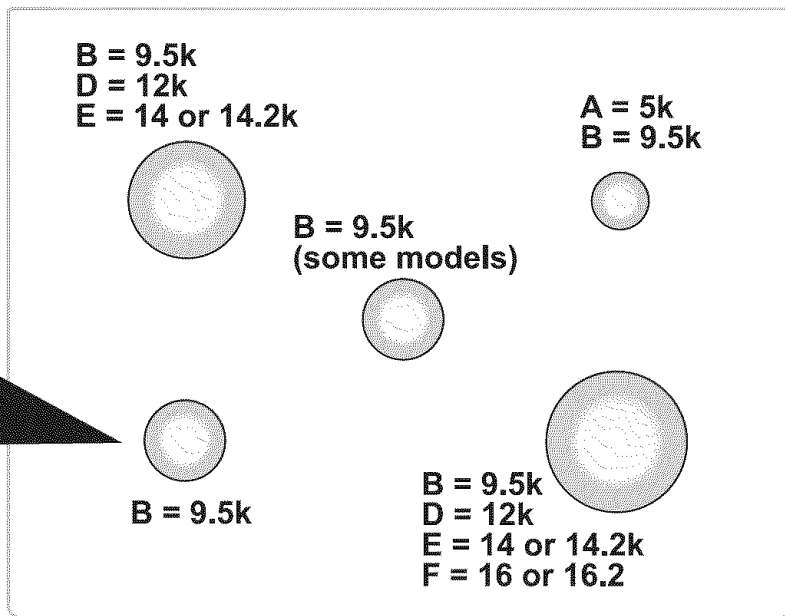

Fig. 1
It is very important to make sure that all of the Surface Burner Heads, Surface Burner Caps and Surface Burner Grates are installed correctly and in the correct locations (See Fig. 1).
1. Match the letter located under center of Burner Cap with letters located inside the Burner Heads (See Fig. 1).